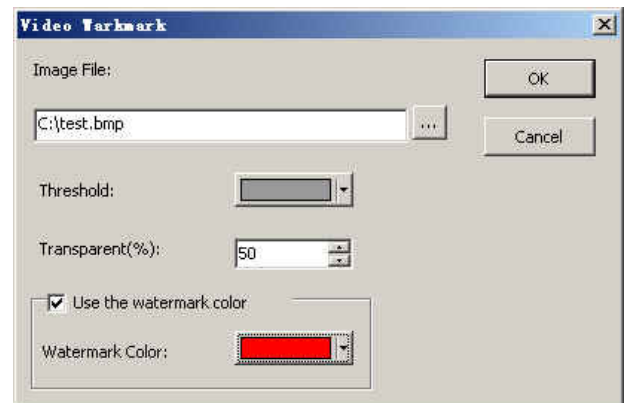
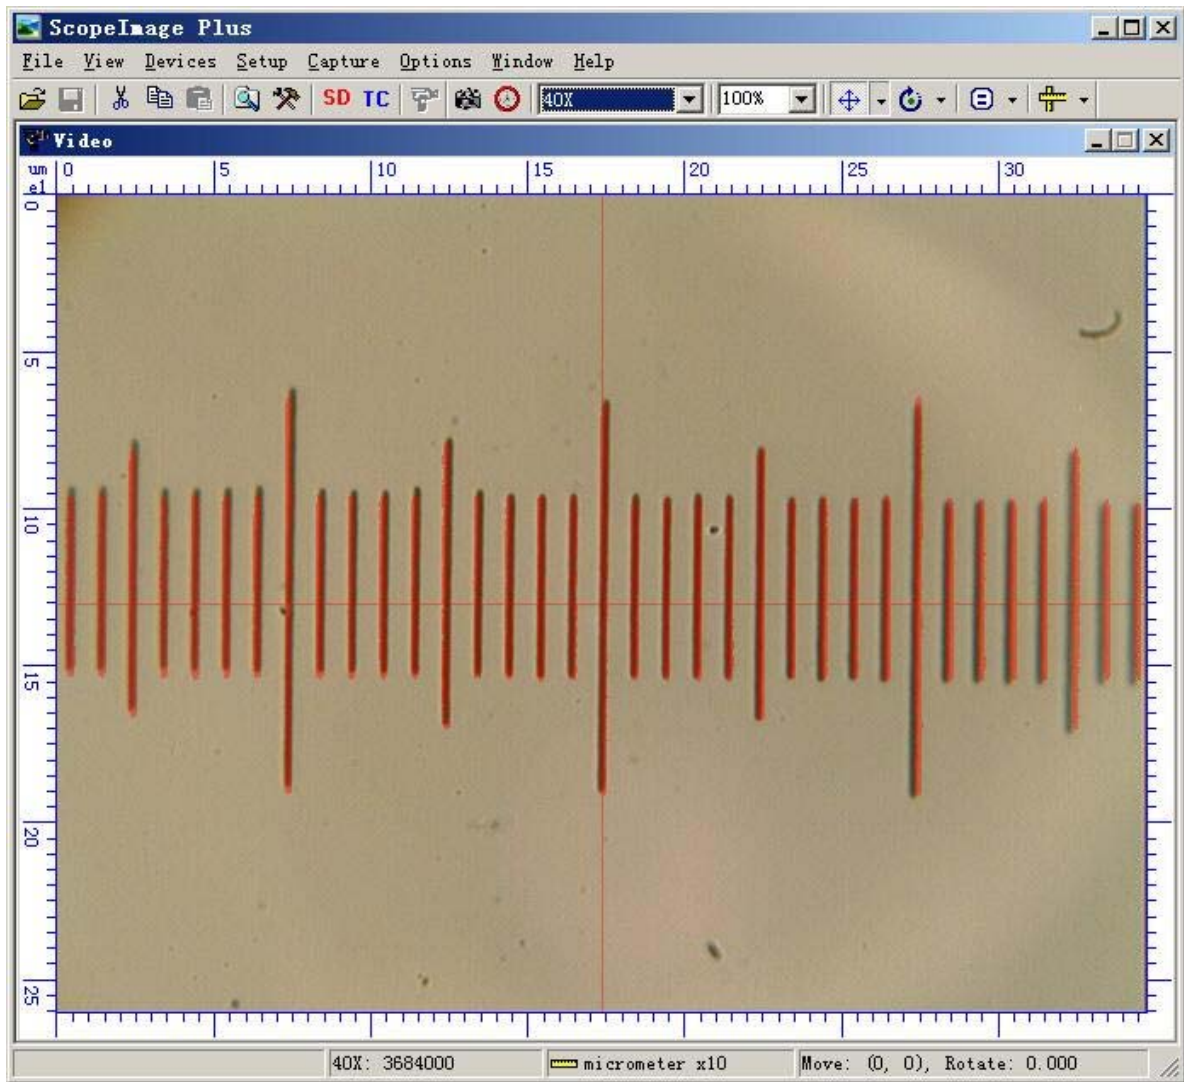

Fig.4 Video Watermark setup dialog
Fig.5 Video window with Video Watermark overlaid
5. Choose **File->Image Import->Video Watermark...**, there should pop up a Video Watermark dialog as shown in Fig.4. Click  button to find the image directory saved in step 4. Set the **Threshold** in color, select **Transparent (%)** index to what ever you want, Check or uncheck **Use the marker color**. Finally, select the **Waterark Color**. If everything is **Ok**, click **OK** button, the final **Video Watermark** should look like Fig.5.